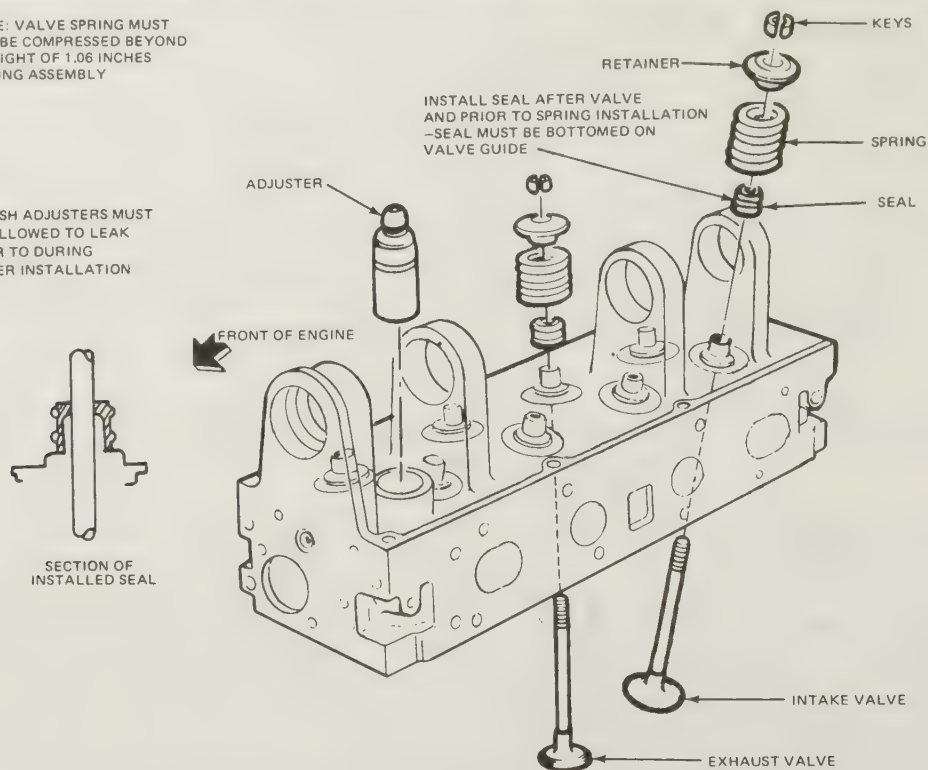

Fig. 1.27. Valves and component parts (Sec. 53)
- 1 With the valves suitably ground in (see Section 34) and kept in their correct order, start with No 1 cylinder and insert the valve into its guide (Figs. 1.27 and 1.28).